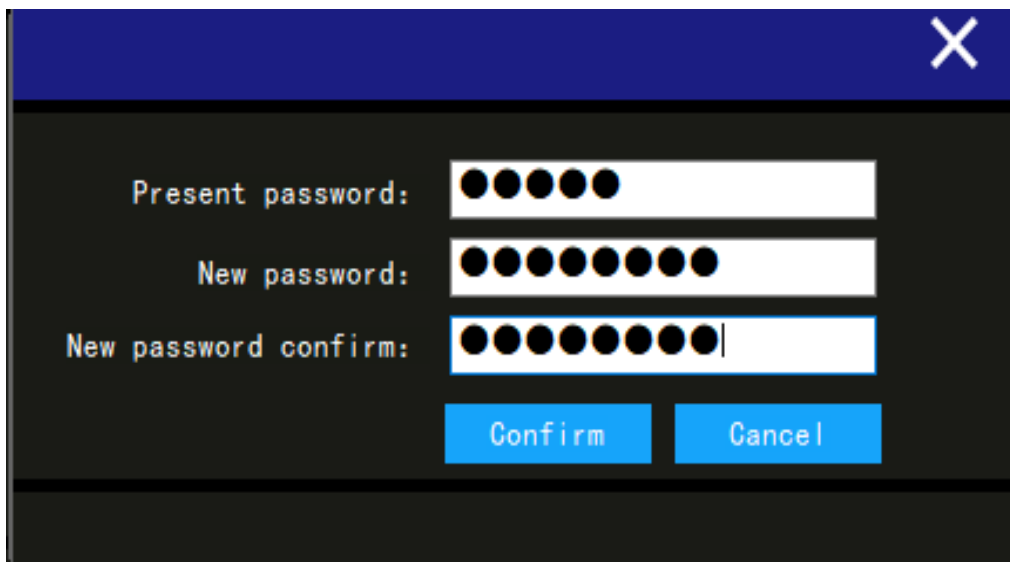

Figure1.5 Password change interface of system software
4. The user can change the login password on the login interface, click “P/W change” button, the interface like figure1.5 will pop up.